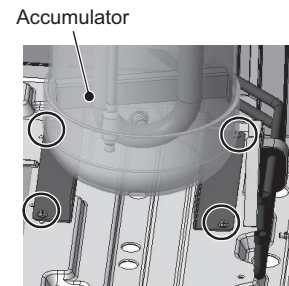

Figure 6
- (7) Remove the four screws from the accumulator legs. (See Figure 6.)